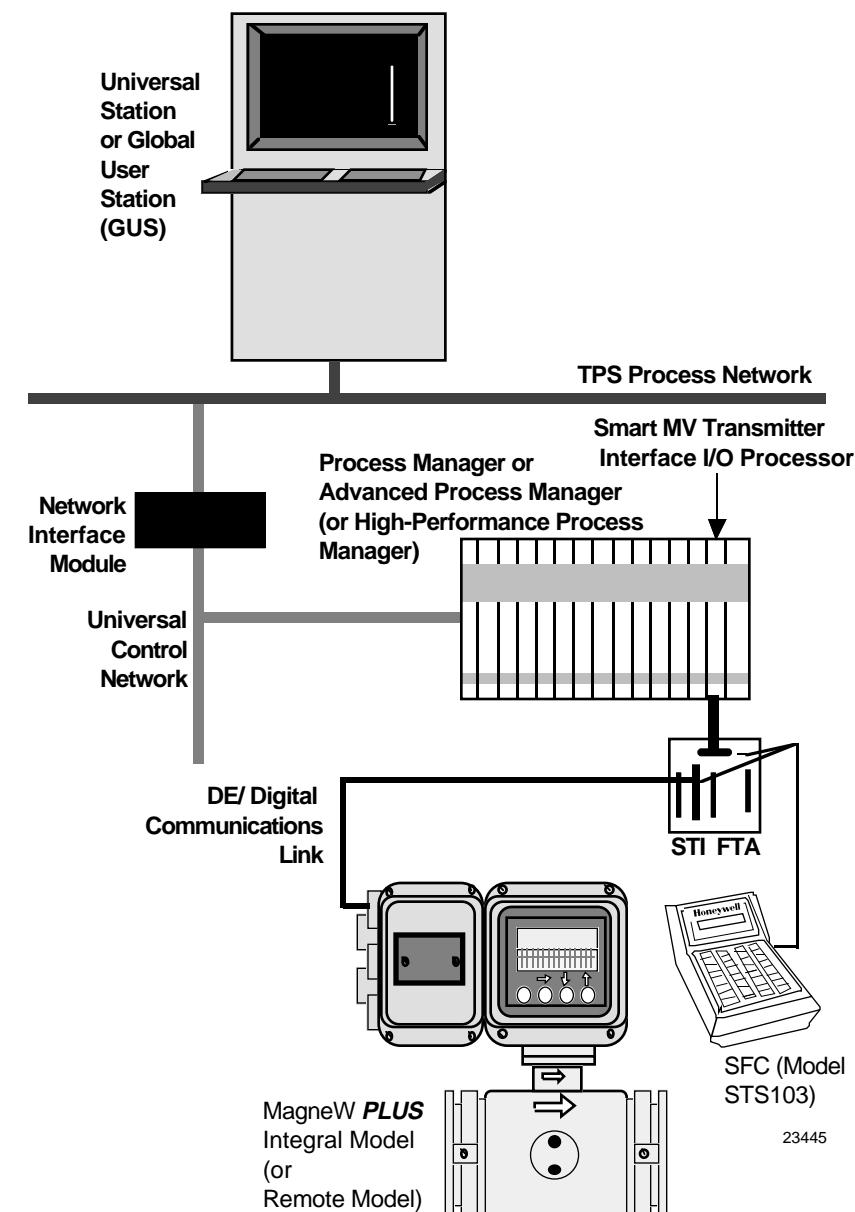

Figure 6—Typical MagneW 3000 **PLUS** Communications Hierarchy for TPS
To "talk" to a flowmeter through displays at the Universal Station or GUS, the transmitter is connected to a Smart MV Transmitter Interface Input/Output Processor (STI IOP) in the Process Manager (PM), Advanced Process Manager (APM), or High-Performance Process Manager (HPM) through an FTA as shown in Figure 6. The flowmeter must be in the DE mode to communicate with the STI IOP.